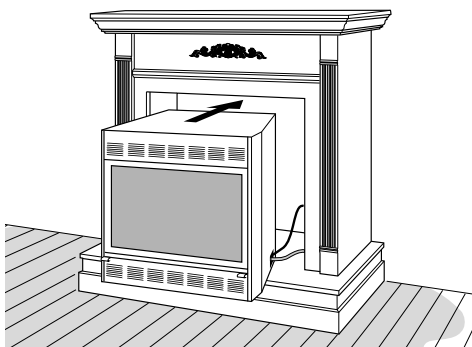

Figure 33 - Inserting Fireplace Into Cabinet Mantel (EFP33PR Shown)
11. Carefully insert fireplace into cabinet mantel (see Figure 33). Be careful not to scratch or damage hearth base, cabinet mantel, or any laminate trim on hearth base. Remove protective material from top of hearth base and from front of fireplace (if any). **Note:** You can secure fireplace to hearth or floor. Open lower louver. Locate screw holes in bottom of base. Tighten wood screws through these holes and into hearth or floor.